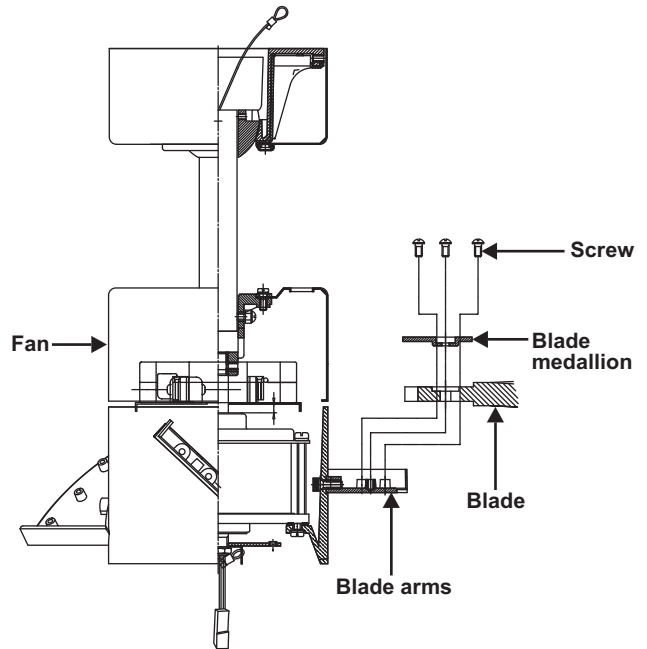

Figure 14
1. Fasten the blades to the blade arms and blade medallion using the blade attachment screws provided. Start a screw into the blade medallion, but do not tighten. (Fig. 14)